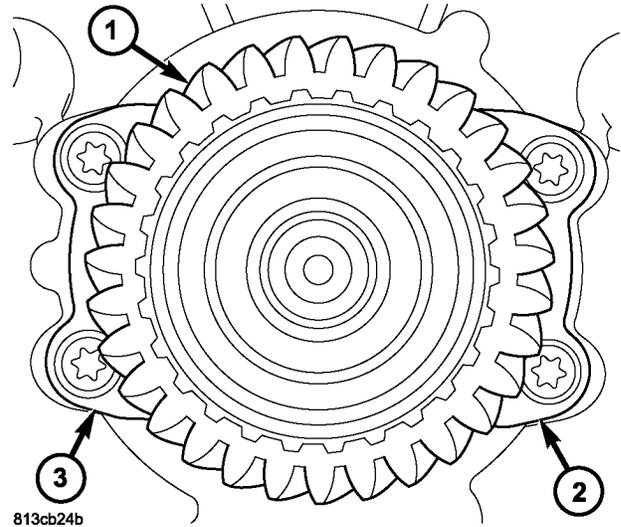

Fig. 96 INPUT SHAFT BEARING RETAINER
(3) Install input shaft (1) (Fig. 96) bearing retainers (2, 3) and tighten bolts to 10 N-m (88 in. lbs.).